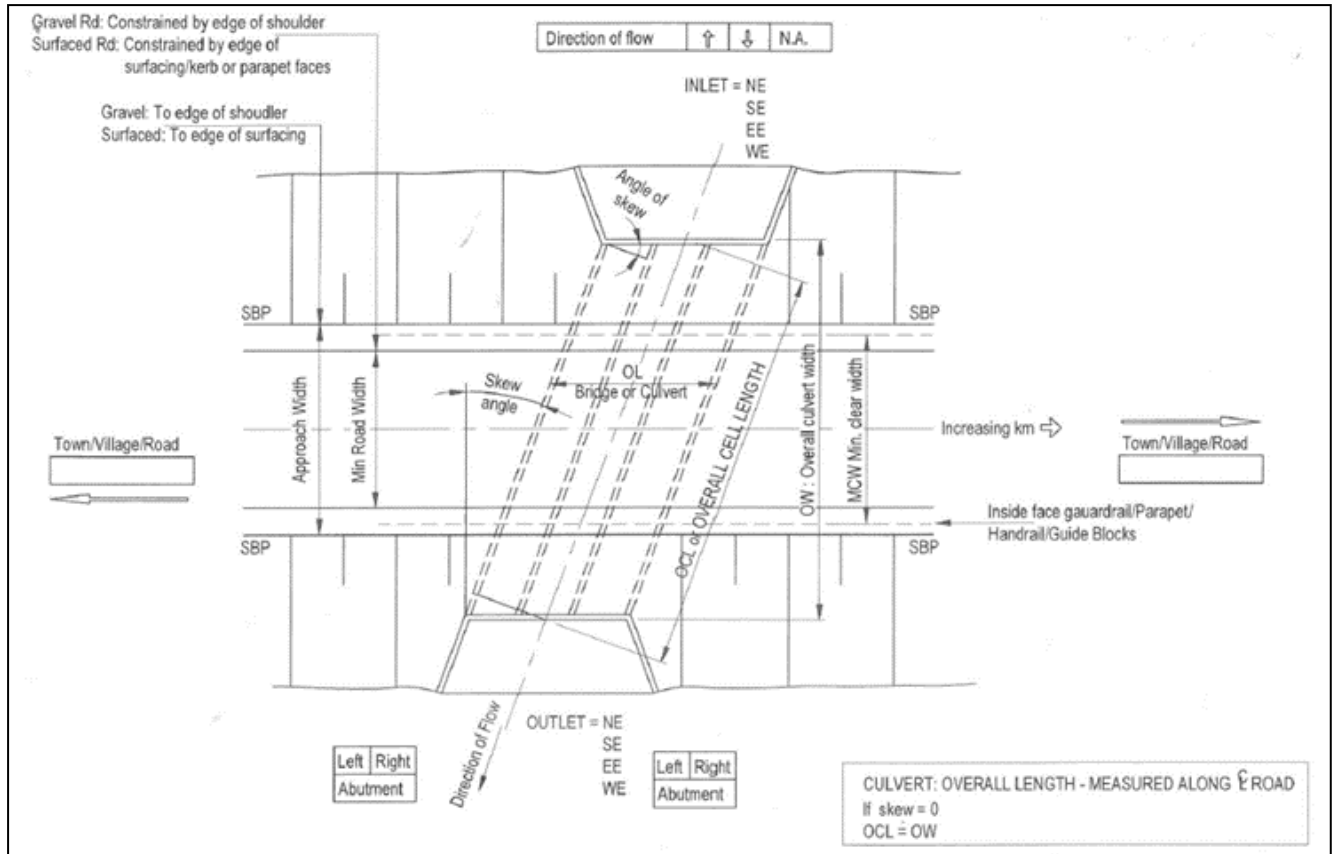

Figure 1: Dimensions of a culvert
1.20 OVERALL LENGTH (m) ('OL' IN FIG 1)
1.21 OVERALL WIDTH (m) ('OW' IN FIG 1)
1.22 MINIMUM CLEAR WIDTH (m) ('MCW' IN FIG 1)
1.23 OVERALL CELL LENGTH (m) ('OCL' IN FIG 1)
1.24 MINIMUM ROAD WIDTH (m) (REFER FIG 1)
1.25 APPROACH WIDTH (m) (REFER FIG 1)
1.26 SKEW ANGLE (DEGREES) (REFER FIG 1)